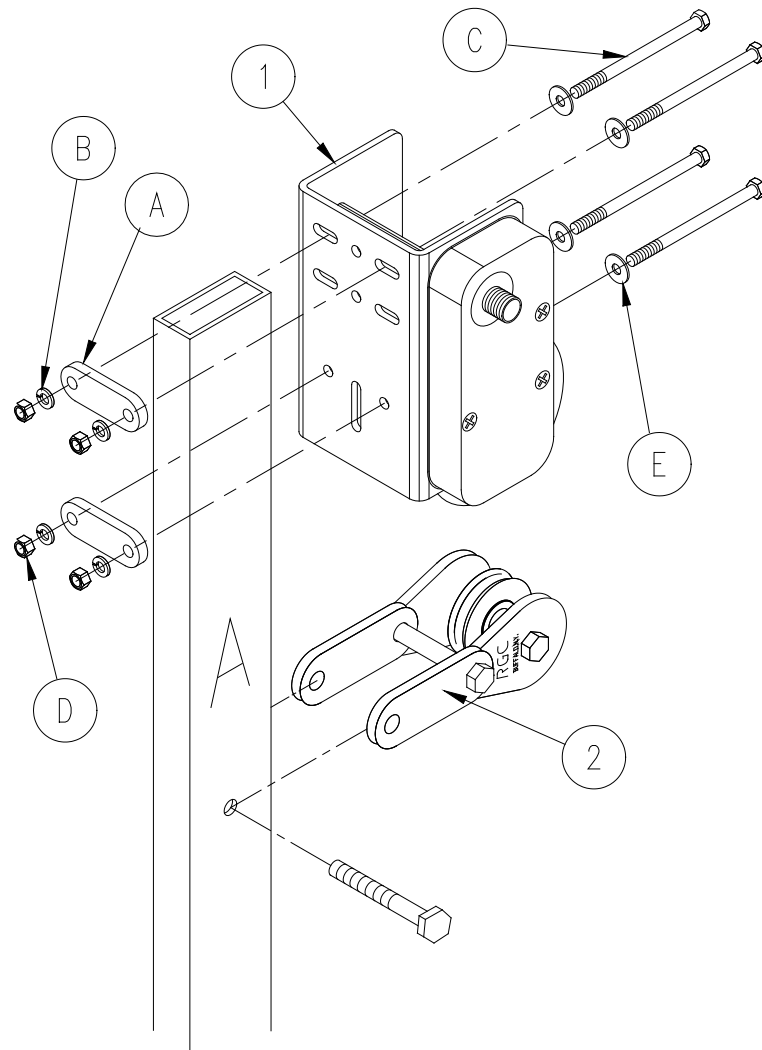

Figure 2-1.
The part reference numbers and letters used in the subassembly drawings of sections 2.3 through 2.9 are the same as those shown in Figure 2-1 and listed in the parts lists of Chapter 4.
1. Refer to figure 2-1. Install the D-L winch onto the A leg of the lift. Use 3/8-16 x 5-1/2 hhcs (E), flat washer (J), 2-hole plate (A), 3/8” lock washer (C) and 3/8” hex nut to mount the winch. Place the winch so that the top of the winch is flush to the top of the A leg.
2. Attach the cable sheave assembly (2) to the A leg as shown in figure 2-1.